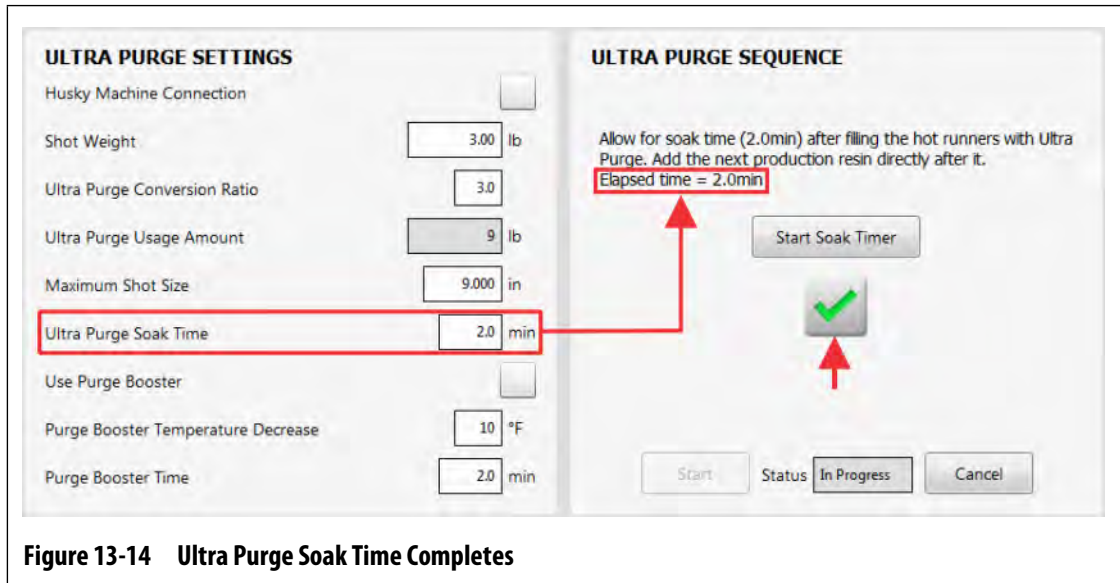

Figure 13-14 Ultra Purge Soak Time Completes
- 19. When the soak timer has completed, touch the check mark button to continue (Figure 13-14).